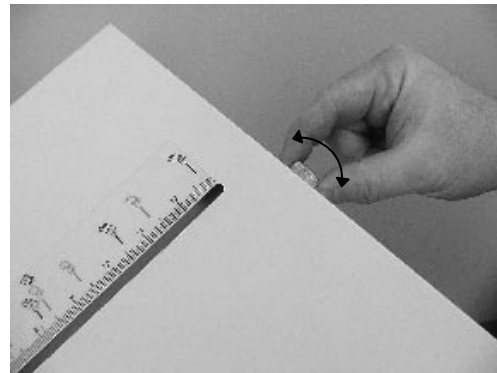

Fig. 6
9. Press the "Test" button on the control panel to check the folds. Fine adjustments can be made with the adjustment knob at the end of the plate (Fig 6).